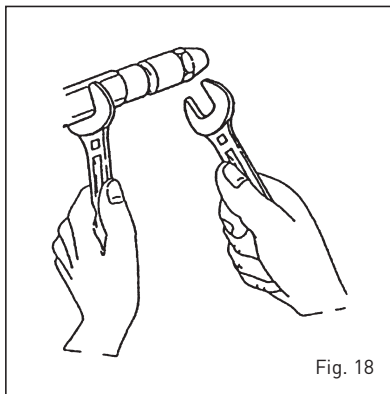

Fig. 18
4.7.3 Substitution of nozzle (fig. 18)
- Block the spray door using a n°19 spanner and unscrew the nozzle with a n°16 spanner (fig. 18).